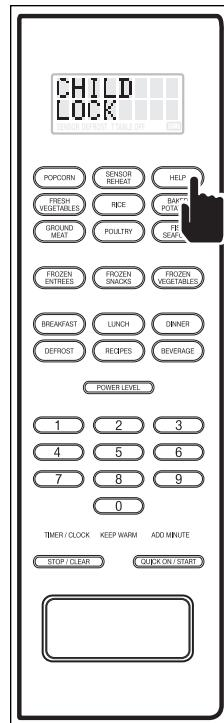

Figure 3-67.
1. Press the HELP key (See Figure 3-67), and the display will flash the Help Features as listed above.